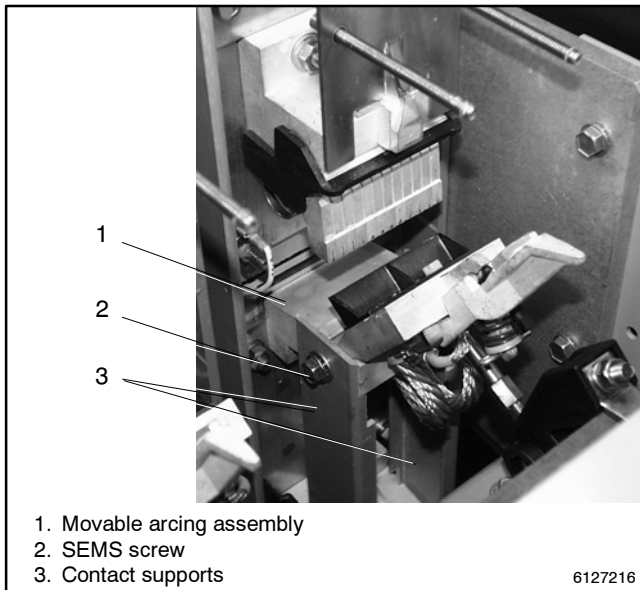

Figure 11-12 Contact Supports (Both Sides)
1. Remove the contact supports from both sides. Use a 1/2 in. box or open-end wrench to remove four SEMS screws (left and right, upper and lower). Then remove the two contact supports that run vertically between the Normal and Emergency movable contact assemblies (two for each pole). A 3 pole switch has 6 contact supports. See Figure 11-12.